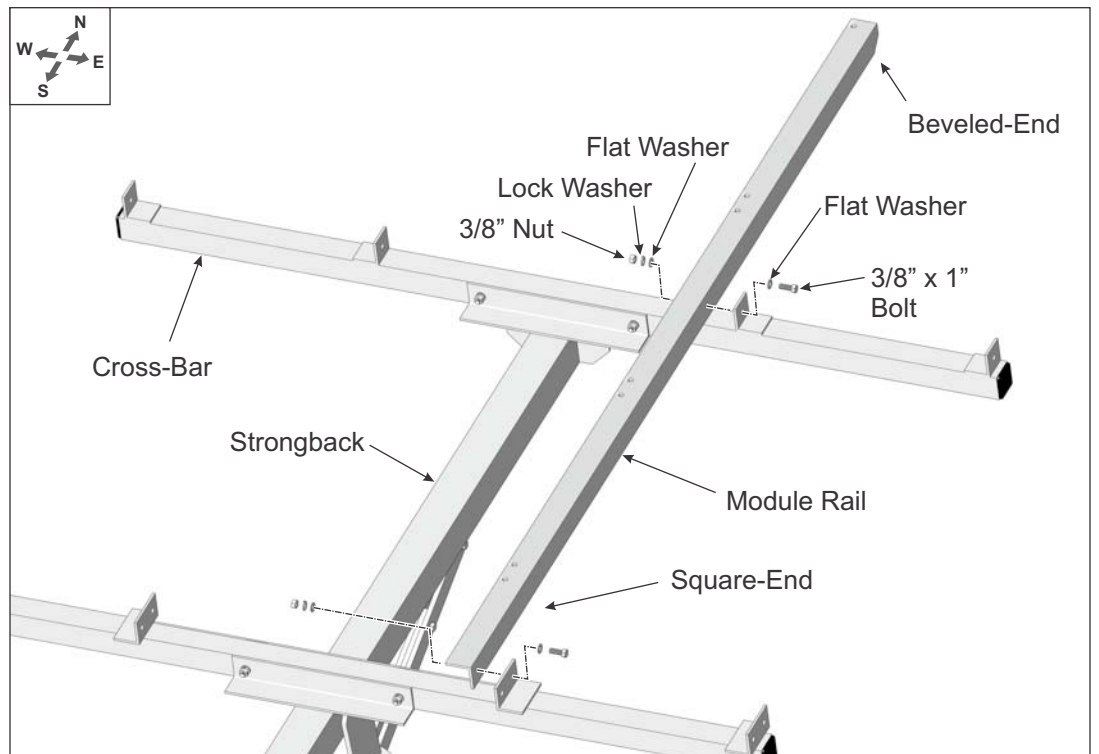

Figure 4-3: Installing the Southern-most Inboard Module Rails to Cross-Bars
- Position Module Rail with its angle cut end positioned south and its square cut end butting up to the end of the previously installed Module Rail. Secure with 3/8" x 1" bolts and hardware. Finger-tighten for now. (See Figure 4-3)